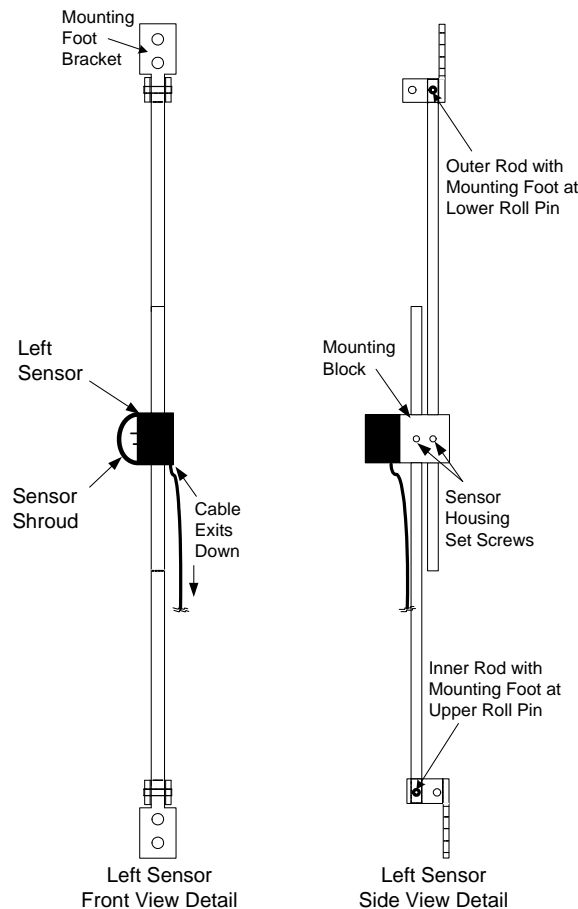

Figure 1. Fan Inlet Sensor with Forward Mount Kit Components
This document provides the instructions necessary to install Fan Inlet Sensors supplied with Forward Mount Brackets (P.N. 700-50xx) as shown in Figures 1 and 2.
For DWDI (Dual Wheel Dual Inlet) and SWSI (Single Wheel Single Inlet) applications, sensors are always factory specified in pairs at the inlet opening. **Only on Fan Array applications may single sensors be specified by the factory for single left or single right installation.** Sensors are marked for their intended location (INSIDE LEFT, INSIDE RIGHT) in the fan inlet, and all cables must exit downward. DWDI and SWSI inlet sensor pairs shall be parallel to one another. Check for obstructions at the fan inlet prior to installation. It may be necessary to rotate the orientation of the sensors to avoid any interfering obstructions in the fan inlet. Refer to Figures 1, 2 and 3 for installation detail. For specific installation questions, concerns or assistance, please contact EBTRON Applications Engineering Team at 800.2EBTRON (800.232-8766).
- b. For sensors marked "INSIDE LEFT", insert an inner mounting rod (with mounting bracket attached at inner roll pin) into sensor mounting block inner rod hole with sensor oriented as in Figure 1.
- c. Insert outer mounting rod (with mounting bracket attached at outer roll pin) into sensor mounting block outer rod hole (Figure 1).
- d. For sensors marked "INSIDE RIGHT", repeat steps c and d with sensor shroud oriented to the right (opposite) as in Figure 1.